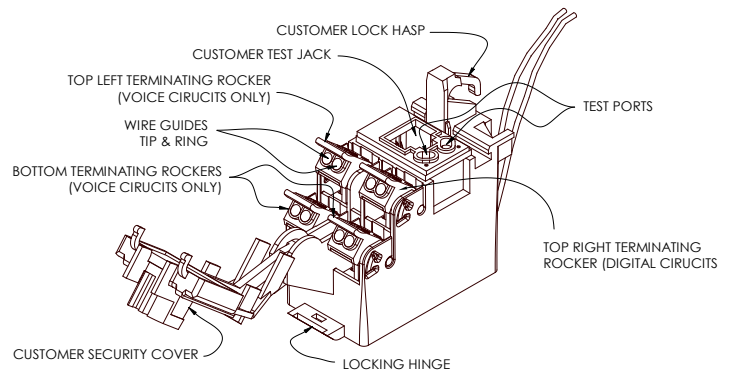

Figure 4
- Open the subscriber bridge cover to gain access to top/bottom terminating rockers. Note the lid can be removed from the base of ease of wire installation (Figure 4).
- Open one unused wire rocker (Figure 4).
- Insert the wire pair into the TIP ("T" or Green) and RING ("R" or Red) rocker until fully seated (approx. 1/2" or 13mm). (Do not strip insulation from wire.) Note that if the wire was previously connected to the bridge, trim away the last inch (25mm) or so of wire, removing the area previously scored by the connectors (Figure 4).